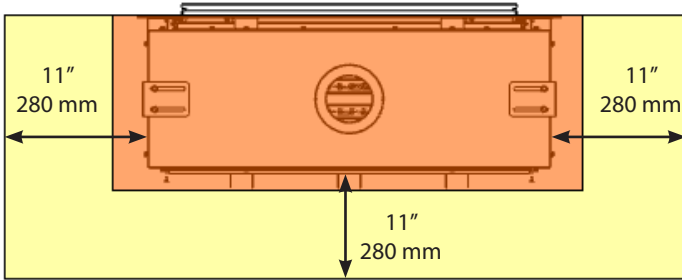

Figure 7 Plan View - Sky
- The minimum clearance to non-combustible material is 2"/50 mm. (See Figures 7 - 12, clearance shown in red)
Figures 7* through 9* show (in yellow) the clearances to combustible material which *must* be maintained.